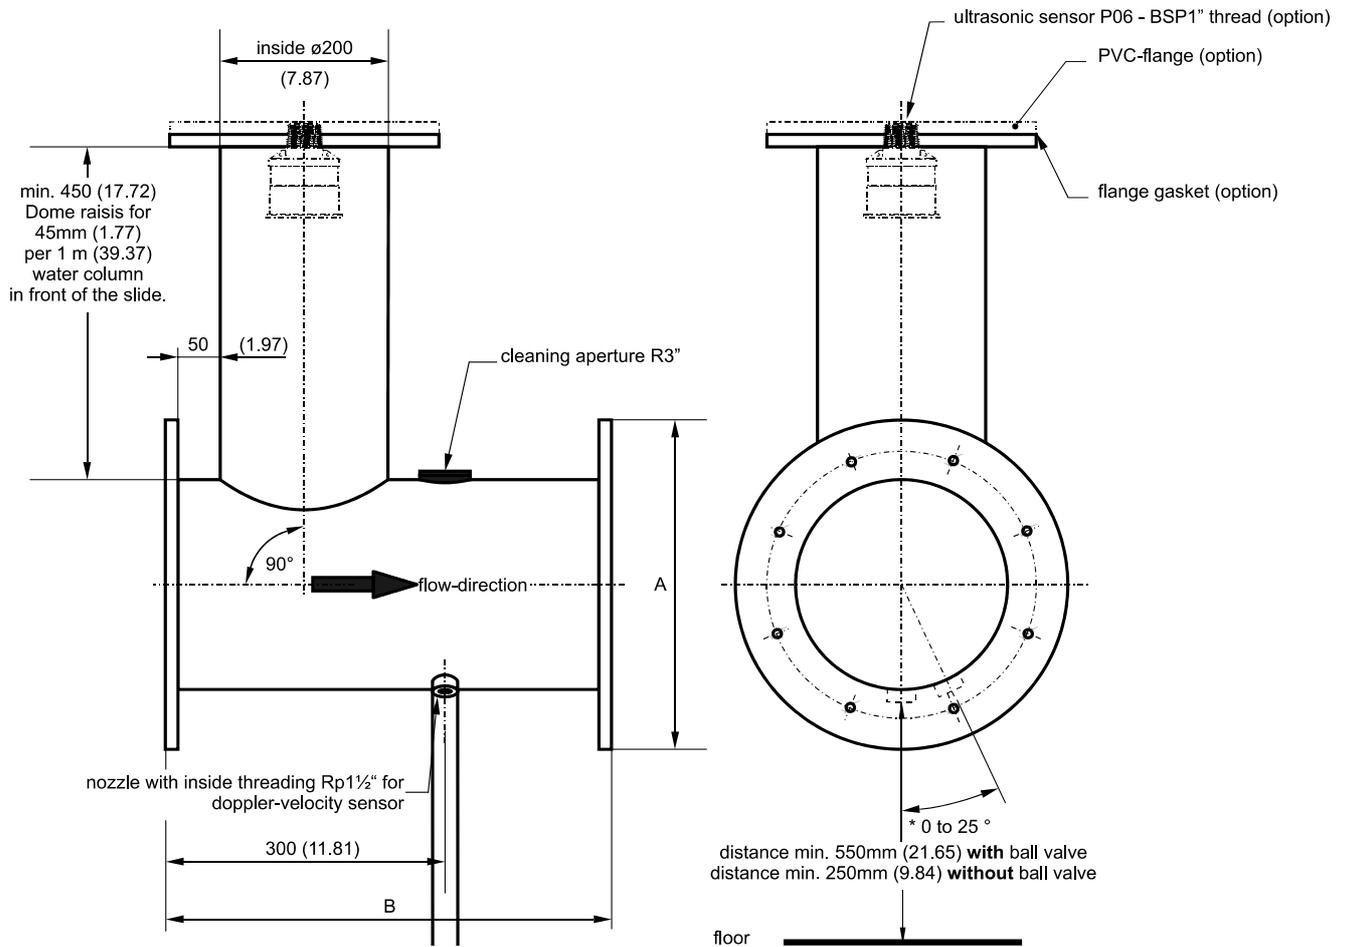

Figure 18. Pipe Measurement Section
- Dimensions of pipe measurement section (see Figure 18)
- The used pipe measurement distance has to be installed exactly like in Figure 18 shown.